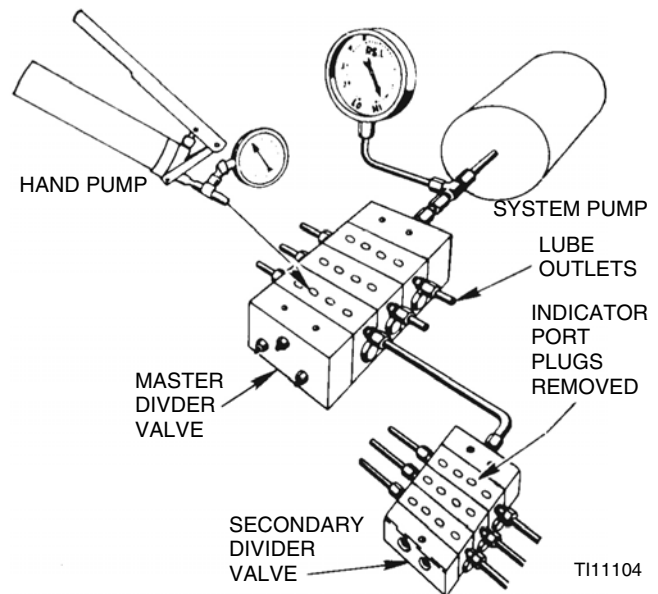

FIG. 13
5. If in Step 4, a blockage has been indicated downstream of the master divider valve, install a manual pump in the indicator port of the master divider valve that is common to the blocked area. (See FIG. 13).